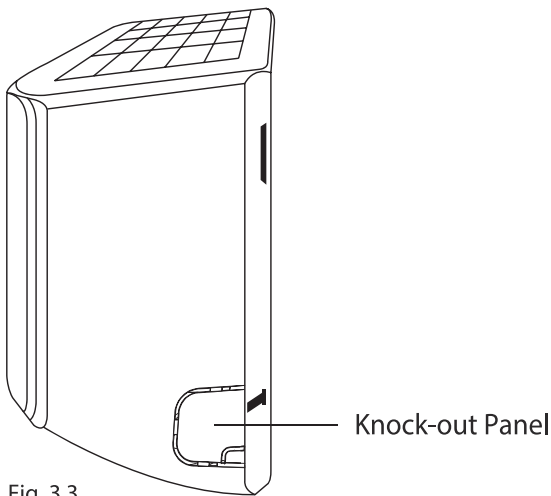

Fig. 3.3
- ❶ Based on the position of the wall hole relative to the mounting plate, choose the side from which the piping will exit the unit.
- ❷ If the wall hole is behind the unit, keep the knock-out panel in place. If the wall hole is to the side of the indoor unit, remove the plastic knock-out panel from that side of the unit. (See Fig. 3.3). This will create a slot through which your piping can exit the unit. Use needle nose pliers if the plastic panel is too difficult to remove by hand.